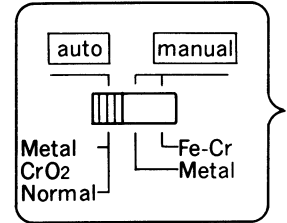

Fig. 4
- When the tape used is provided with metal tape mode detection hole, set the tape selector located at the back of the set to auto position (fig. 4).
- Set the tape selector located at the back of the set to auto position (fig. 4).
- When the tape used is provided with CrO2 tape mode detection hole, set the tape selector located at the back of the set to auto position (fig. 4).
- When the tape used is not provided with the CrO2 tape detection hole, set the tape selector to auto position as shown in fig. 4, and pull out the 6 pin socket-ⓐ, and short-circuit the terminal of the 6 pin post-ⓑ as shown in fig. 7, then the circuit is set to CrO2 mode.